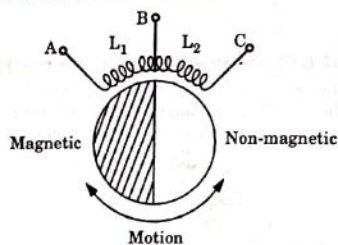

Fig. 5.13.5. Variable inductance transducer for rotary motion.
2. Fig. 5.13.5 shows a variable inductance transducer for measuring angular displacement or torsional motion. One half of the core is made of a magnetic material while the other half of non-magnetic material. In the variable inductance transducer, shown in Fig. 5.13.5 a small air gap in the magnetic flux path of an electromagnet is varied. The inductance of one coil increases while that of the other decreases.